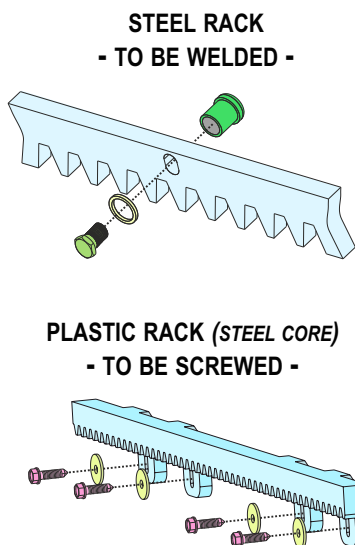

Fig. 8
- 7.2. Fix on each gear rack element the support pawls with the appropriate lock screws, making sure to put them in the upper part of the hole - Fig. 8;